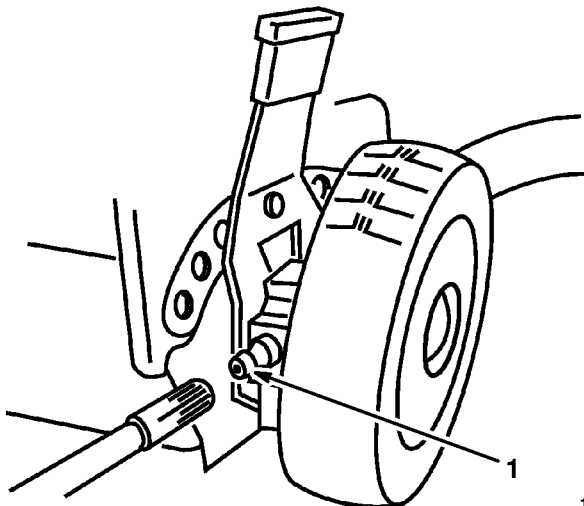

Figure 25
1. Wipe grease fittings on rear height-of-cut adjusters (Fig. 25) with a clean rag.